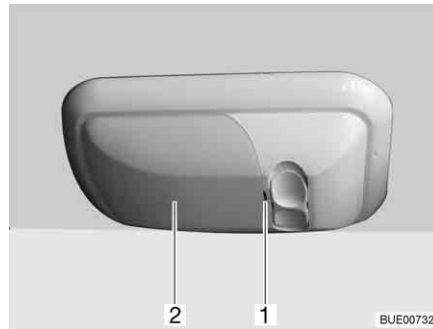

Fig. 273 Garage light
- Use a suitable tool (e.g. a screwdriver) to carefully lever out the cover (Fig. 273,2) at the notch (Fig. 273,1) and remove it.